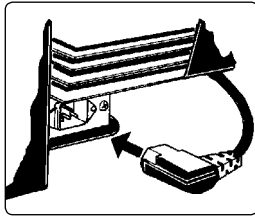

fig 6
- 6.1.1. Connect the other end of the mains power lead to the sanding machine (fig 6)